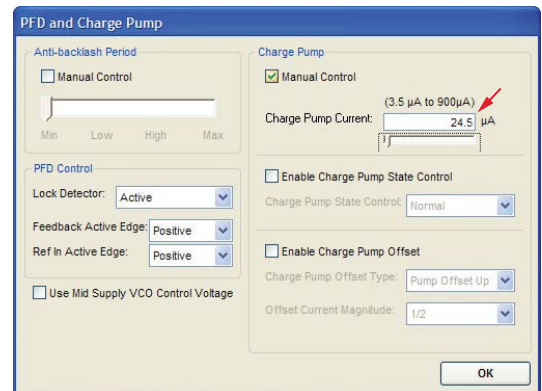

Figure 27. PFD and Charge Pump Window
- Click **Click for Details** in the **PFD & Charge Pump** box in the main window of the evaluation board software to access the **PFD and Charge Pump** window (see Figure 27).